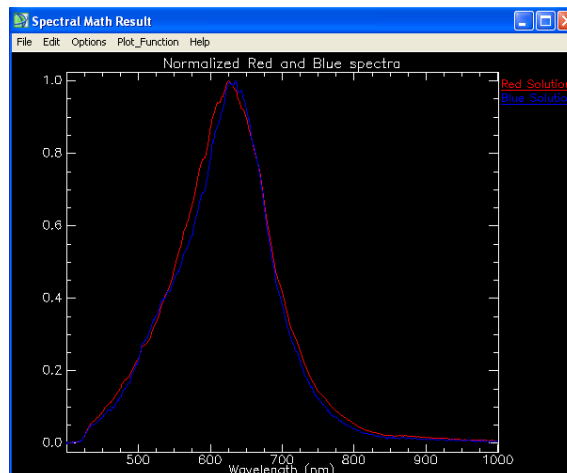

Figure 50. Normalized spectra
- a. Use Edit menu to change colors and labels (see Figure 50)